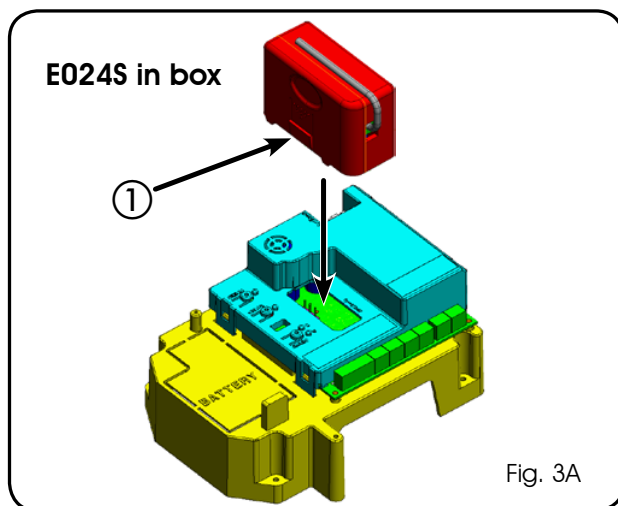
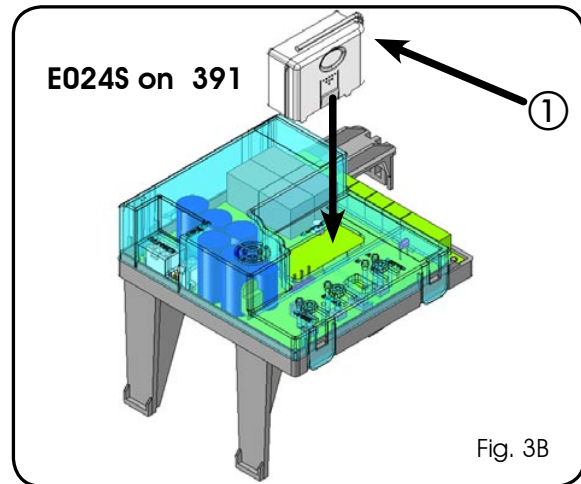

Fig. 3A
Fig. 3B
The control unit has an integrated 2-channel decoding system (DS, SLH, LC) named OMNIDEC. This system makes it possible to memory-store both total opening (OPEN A) and partial opening (OPEN B) of the automated system - this is made possible by an additional receiver module (fig.3A ref. ①) and Fig.3B ref. 1 for E024S for 391) and radio controls on the same frequency.